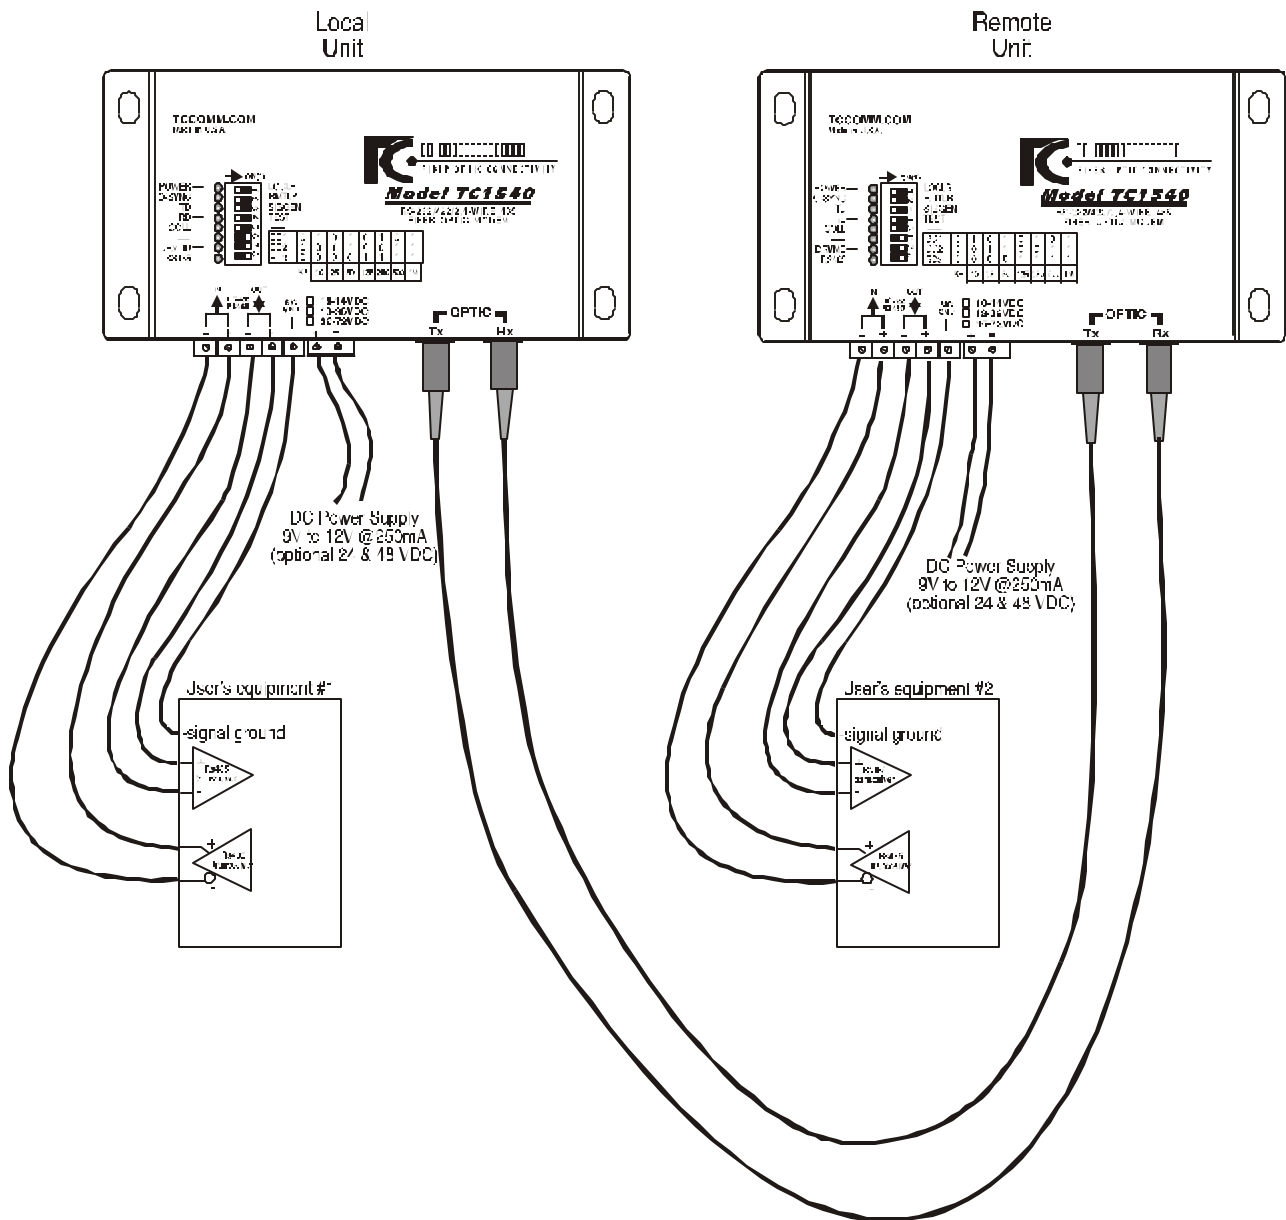

Figure 12. 4-Wire RS-485 Installation Diagram
- B. Connect fiber optic cables between the local & remote units as shown in Figure 12; the local unit's optic "Tx" connects to the remote unit's optic "Rx".
The TC1540 is designed with easy troubleshooting in mind. The LED indicators and DIP switches on the top cover will support various diagnostic functions. The first step in troubleshooting is to determine whether the problem is optical or electrical in nature. Figure 12 describes the steps required to isolate the problem. The tests related to each block are explained in Chapter 4 - Bench Tests.